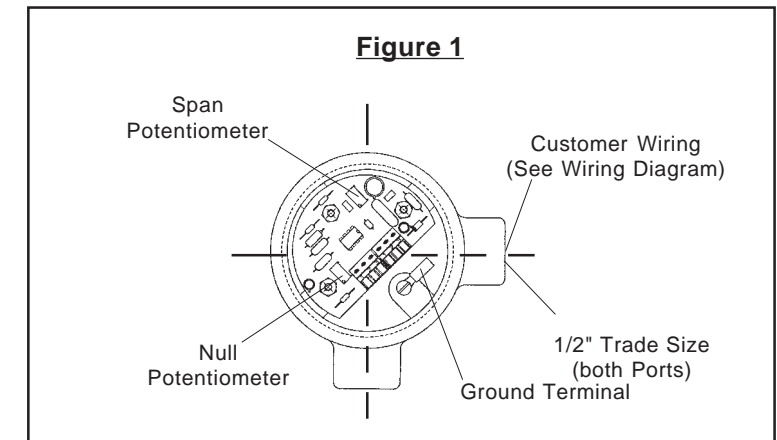

Figure 2
- Wire as shown per **Figure 2**, connecting a jumper wire in place of the black and white probe wires. Connect an ammeter in series to monitor loop current. Apply power to loop. Adjust null pot for 4mA.